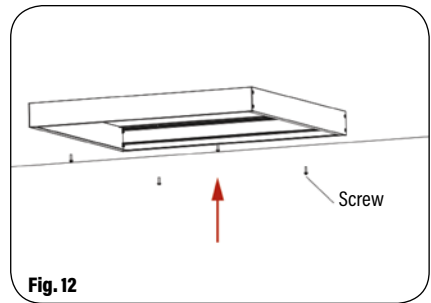

Fig. 12
3. Mount the frame on the ceiling with screws. (Fig. 12)